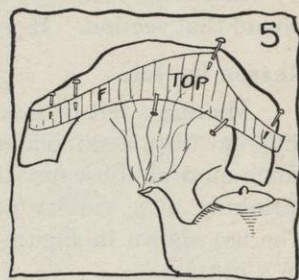

FIG. 5.
- a. Steam the felt or the straw until soft, and pin at the edge and headsize of pattern about every 3 inches to get the "general swing" (see Figure 5). Do this on the under facing of the pattern where there is no crinoline. If your felt is two-toned, be sure that the side that you want to show on the top facing touches the under facing of the paper pattern. If your felt is the same on both sides, you need not think of this. Straws are rarely two-toned, but they have a right and a wrong side. Place the right side of the straw on the facing that will show most when finished.